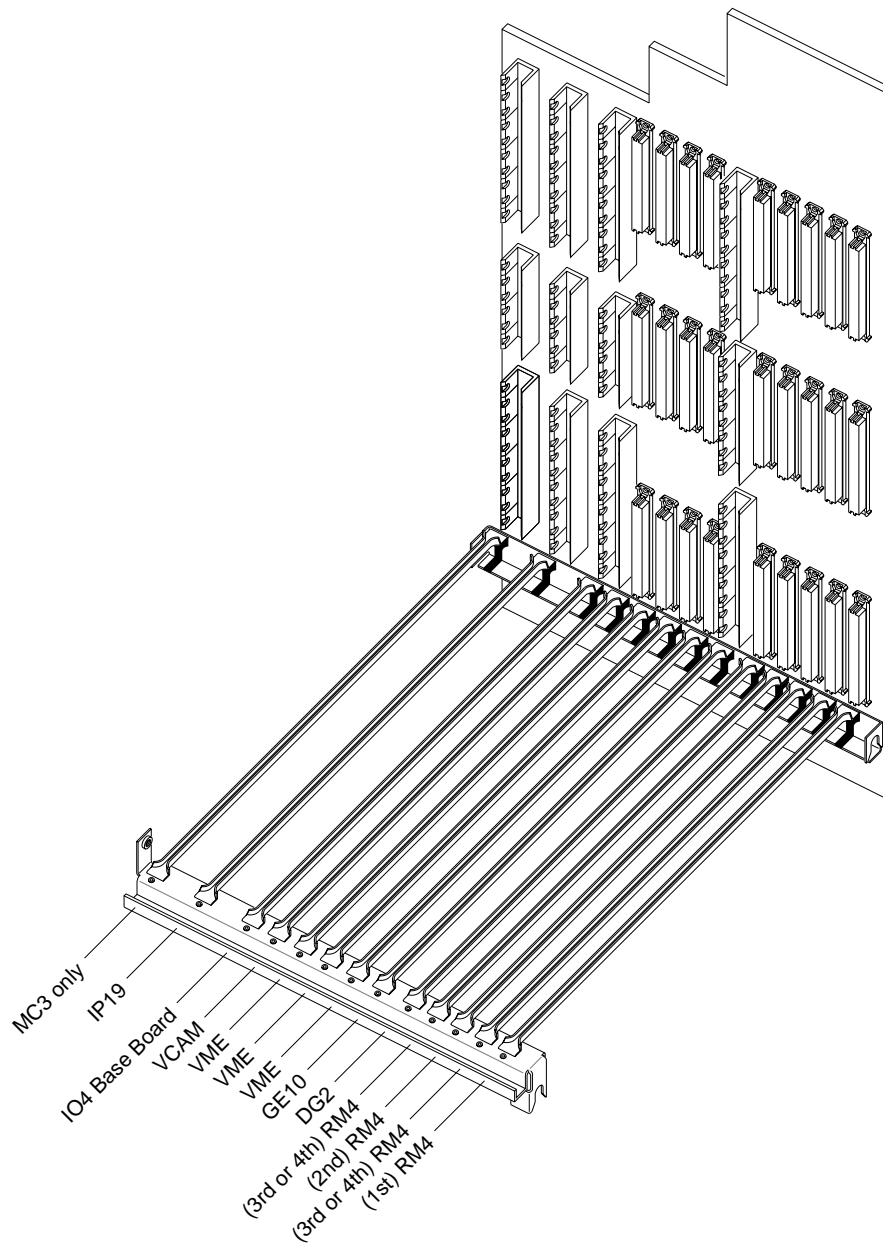
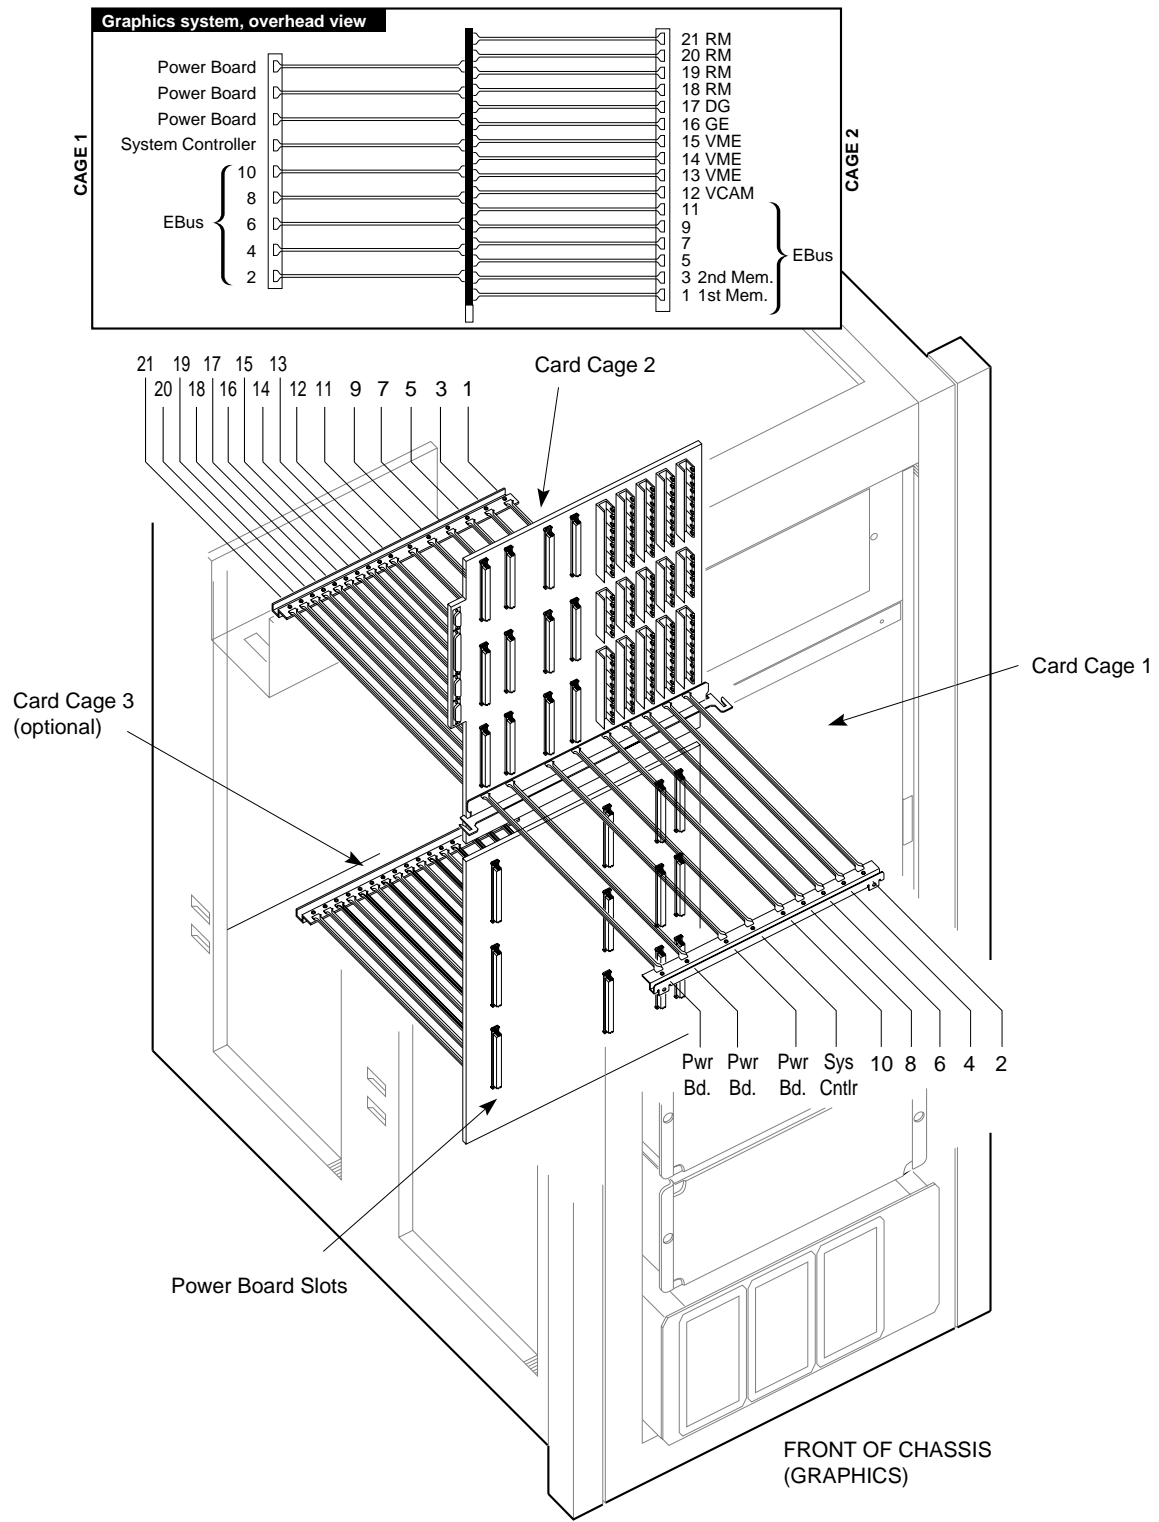

Figure 2-4 Onyx Deskside VMEbus Slot Locations
Figure 2-5 Onyx Rackmount VMEbus Slot Locations
5. Select a VMEbus slot for the EFAST board. It is recommended that you use the first available VMEbus slot. For an Onyx deskside system, refer to Table 2-9 and Figure 2-4 for VMEbus slot information. For an Onyx rackmount system, refer to Table 2-10 and Figure 2-5.